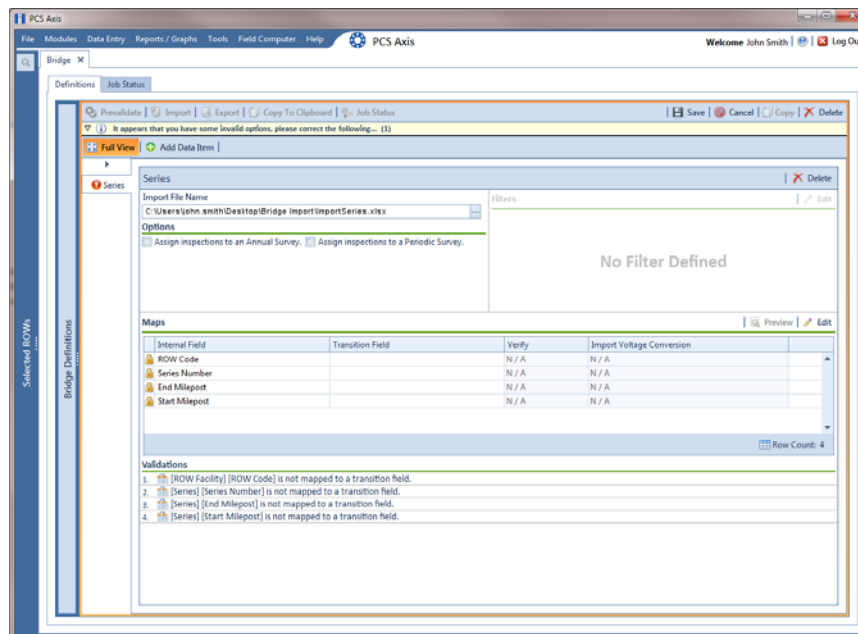

Figure 10-65. Definition
- 8** Identify the location of the import transition file using the following steps (Figure 10-65, page 516):